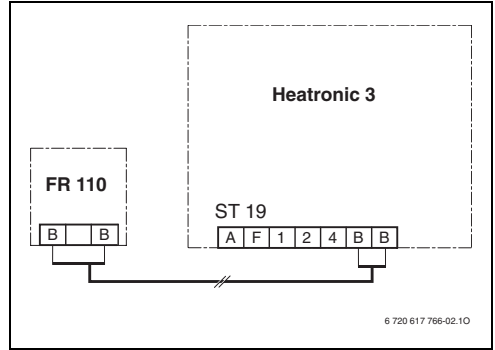

Fig. 8 Controller connected to BUS-enabled Heatronic 3.
- Make the electrical connections (→ Fig. 8 on page 14).